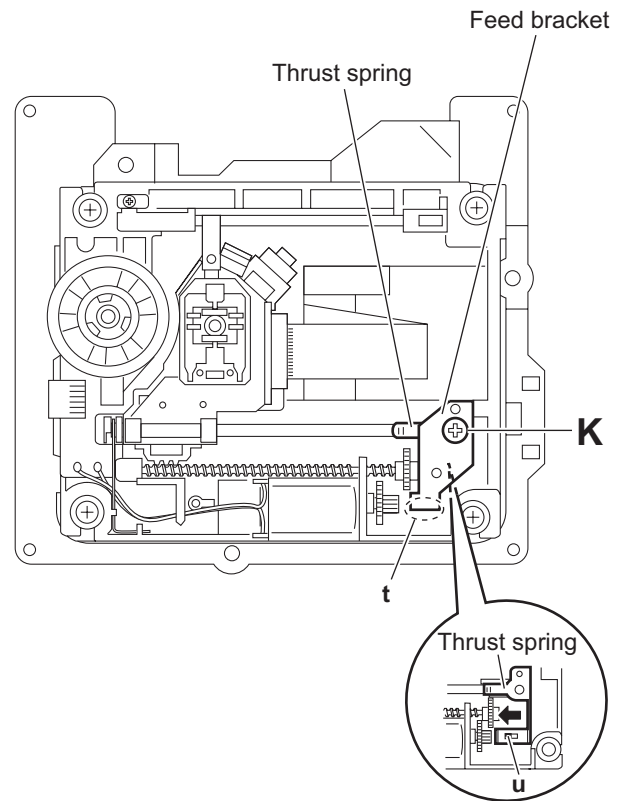

Fig.18
(See Figs.18 and 19)
- (1) From the top side of the DVD traverse mechanism assembly, remove the screw **K** attaching the feed bracket and remove the feed bracket from the sections **t**. (See Fig.18.)
- (2) Release the claw **u** of the thrust spring in the direction of the arrow and remove the thrust spring. (See Fig.18.)